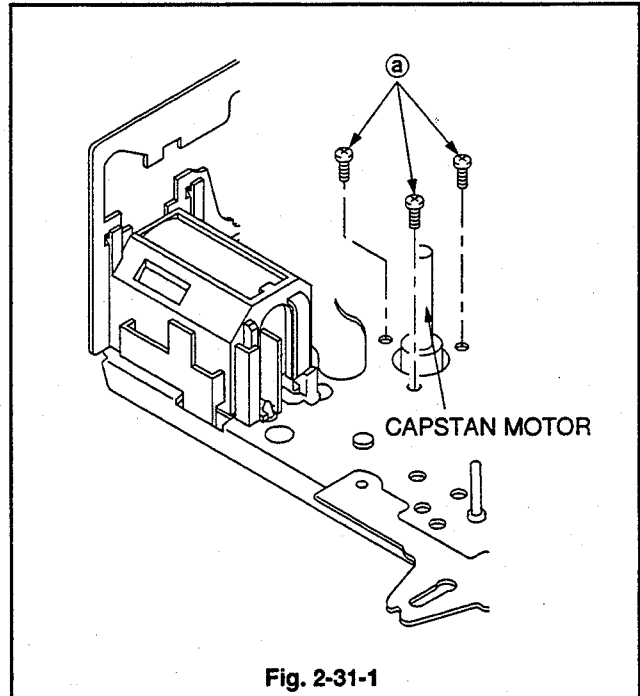

Fig. 2-31-1
1. Remove the three CAPSTAN MOTOR fastening screws (a) shown in Fig. 2-31-1, and remove the CAPSTAN MOTOR.
2. Install three screws (a) shown in Fig. 2-31-1.